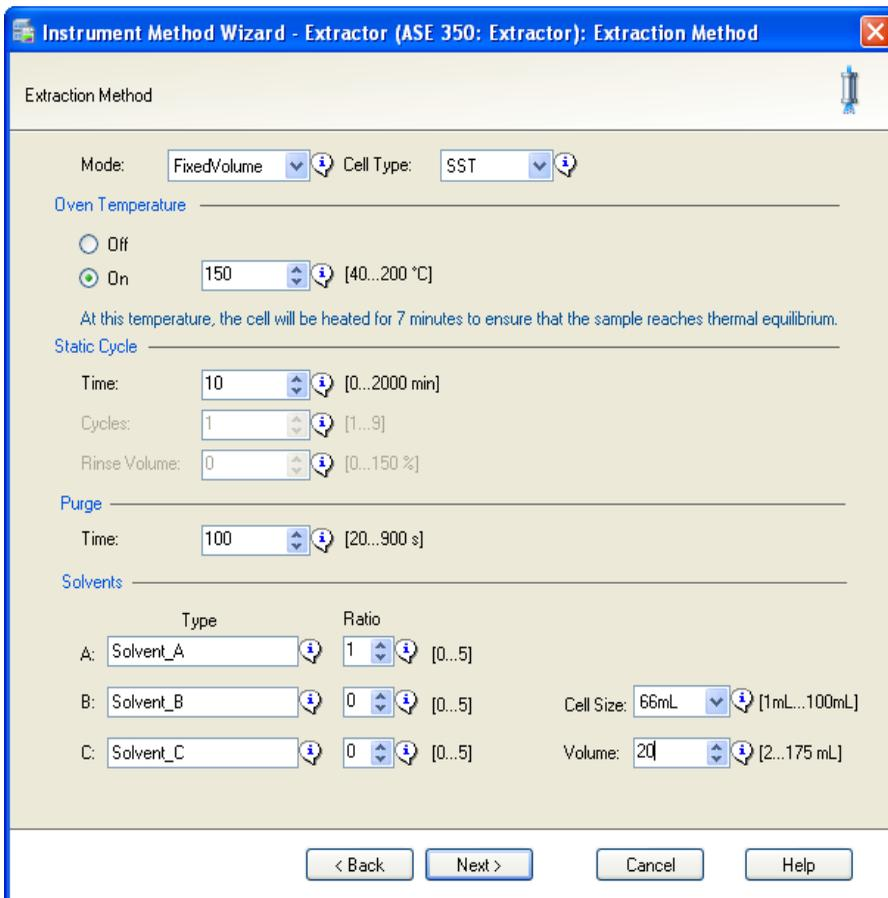

Figure 2-26. Example Chromeleon Extraction Method Page
- The **Extraction Method** page in the Chromeleon Instrument Method Wizard (see Figure 2-26).